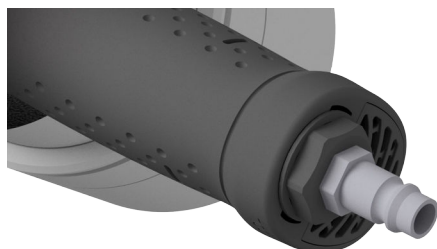

Fig. 15: Compressed air port
1. ➔ Clean the compressed air port (Fig. 15).